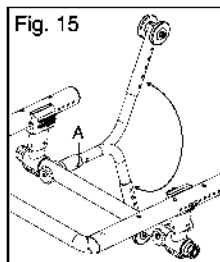

Fig. 15
How to Turn the Anti-Tip Tubes Up (Fig. 15)
1. Press the rear anti-tip tube release pin (Fig. 15:A).